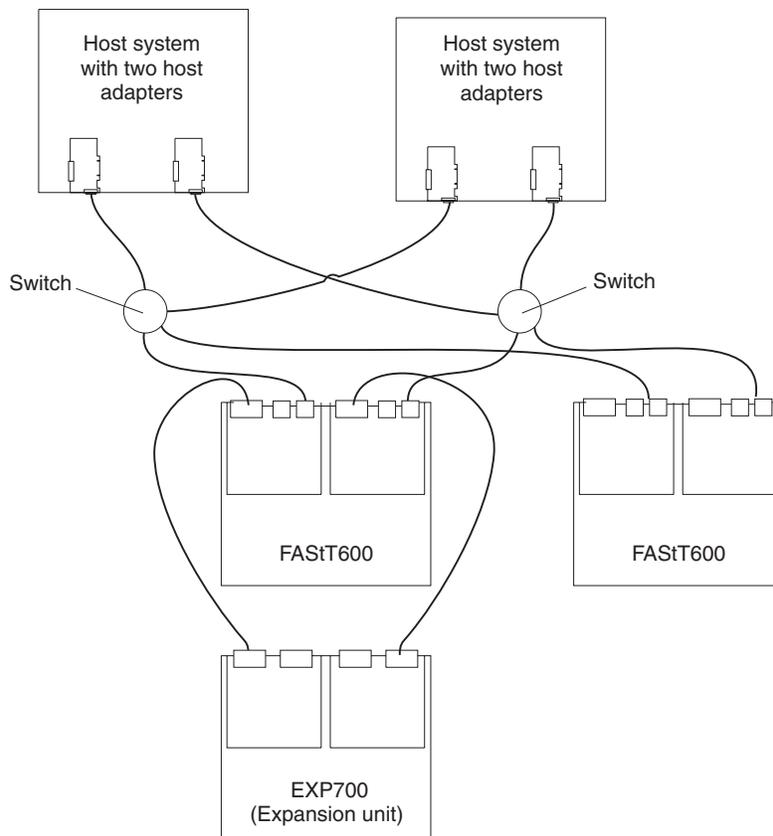

Figure 21. Example of a dual SAN fabric zone configuration
- Dual SAN fabric zone configuration, with an additional FAStT600 storage server and an EXP expansion unit attached in Figure 21 on page 24